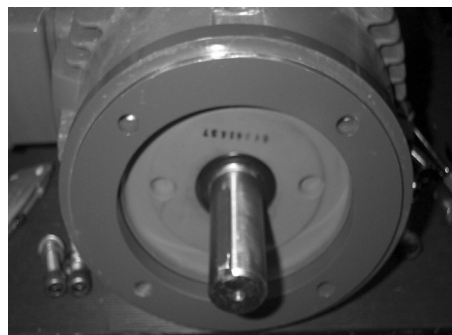

Fig 1
2. Insert key into motor keyway. **(See Figure 1)**. Visually determine key location in pump end. Align keyway slots on motor shaft and pump impeller sleeve. Slide pump assembly over the motor shaft until the pump motor adapter (item 8 for AC6 or 22 for AC8) is completely seated over the motor rabbet. Install 4 bolts with flat washers and lock washers (items 9, 10 & 11 for AC6 or 19, 20 & 21 for AC8) through the face of the motor & into the motor adapter. Securely tighten bolts using the torque specifications in the table below.
3. Lubricate o-ring of self-sealing bolt (item 6) with suitable, compatible lubricant. Insert self-sealing bolt through shipping plug and into the eye of the impeller using a deep well socket. Insert a screwdriver into the motor fan to prevent motor shaft from rotating. Securely tighten bolt using the torque specifications in the table below.